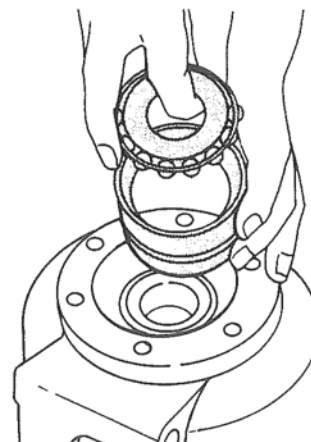

Figure 25. Installing Reduction Housing Bearing.
2. The pinion cage assembly should be carefully inspected for the following before assembly: Figure 25.
1. Place the reduction housing on an arbor press resting the front face on a clean flat surface. The position of the bearing parts are shown in Figure 25.